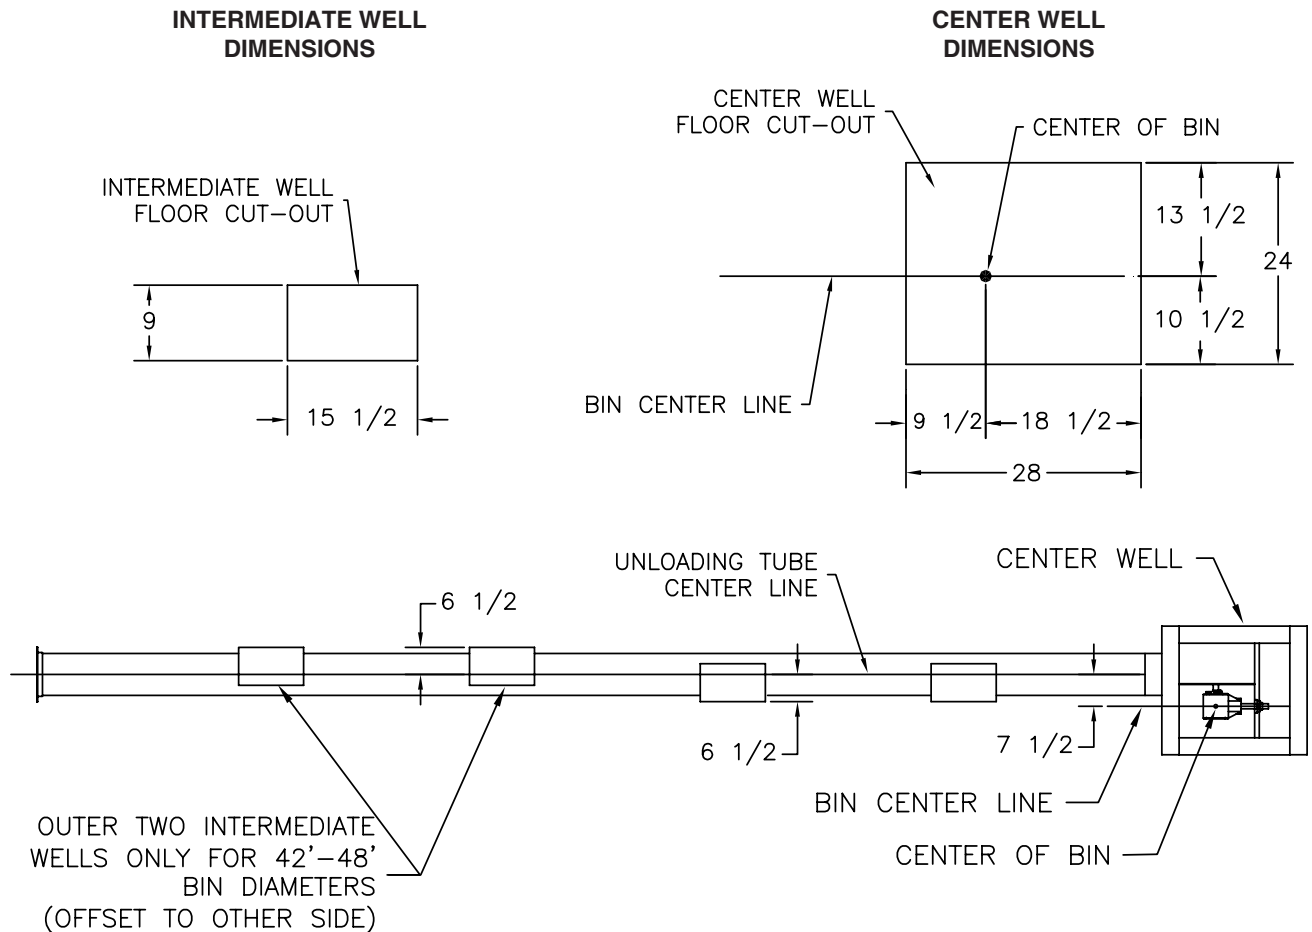

FIG. 11
1. Locate the center of the bin and make a cut-out in the bin floor for the center well (See Figure 11). Locate the vertical shaft of the top gearbox in the center of the bin. Place suitable supports under the center well to hold it in position.
4. Cut openings in the bin floor for the intermediate wells (see Fig. 11 on Page 13 for dimensions). The number of wells depends on bin size (See Figure 14 and the table below).